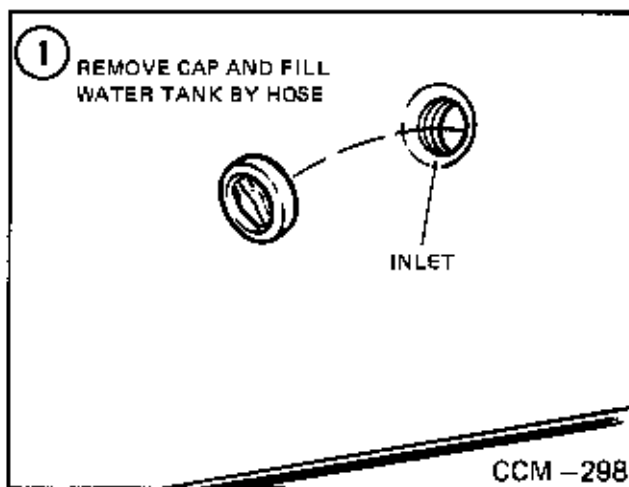

Fig. 15
1. Remove cap from inlet. (Item 1, Fig. 15)
*NOTE: The water tank cannot be filled by connecting hose to connector, (Item 2). This connector is for the purpose of supplying continuous water service when accomodations are available. The water tank will have to be filled at the water tank inlet, (Item 1, Fig. 15)*